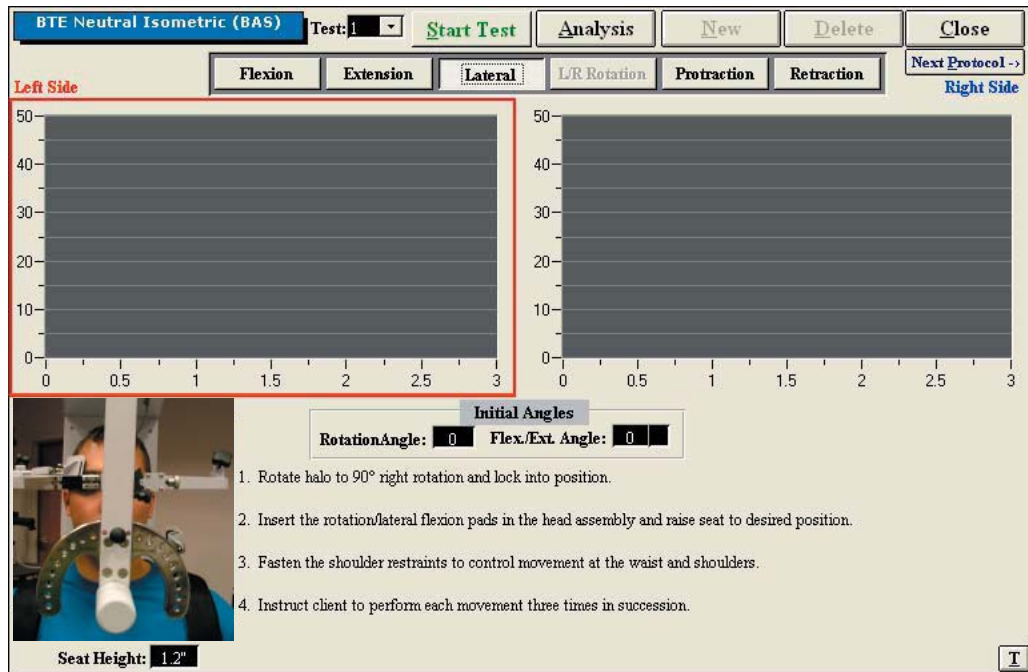

Figure 6-83. Cervical Strength - Lateral Test
Step 1. Select the **Lateral** icon. The Lateral Testing screen will appear (Figure 6-83). Note that the screen shown in the figure may differ from that on the computer.